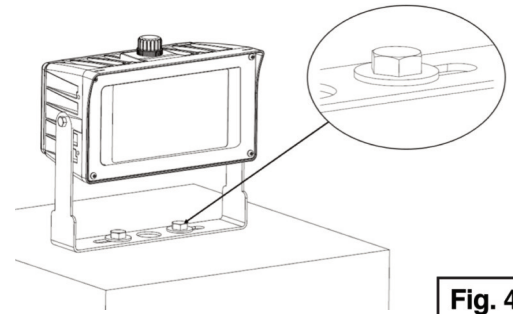

Fig. 4
- 2.) Thread fixture into flat mounting surface (see Fig. 4).